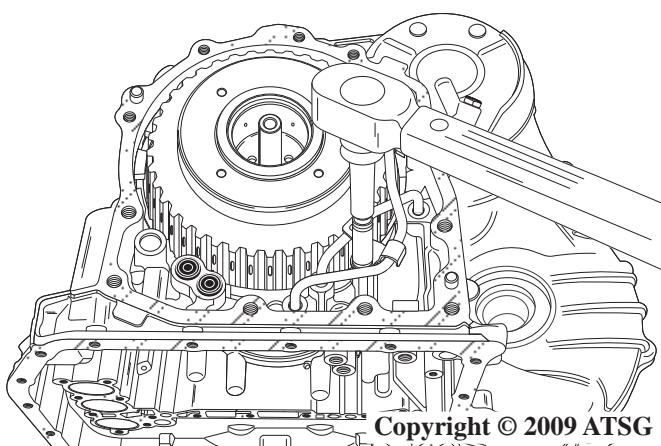

Figure 175
61. Using a torque wrench, torque the hold down bracket attaching bolt to **5.4 N m (48 in. lb.)** as shown in Figure 175.